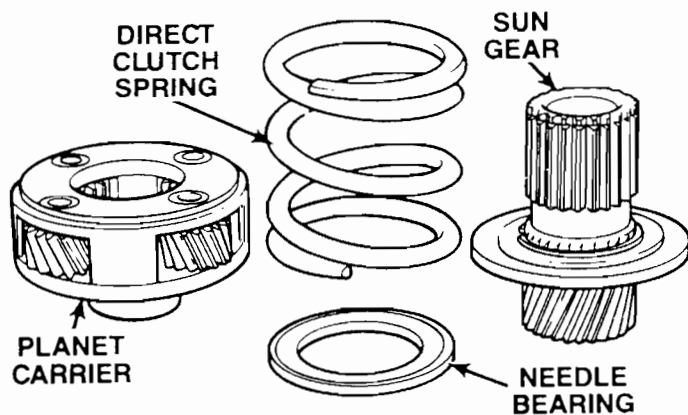

FIGURE 25
15. Next, remove the direct clutch spring, the sun gear, a needle bearing pack and the planet carrier (Figure 25).